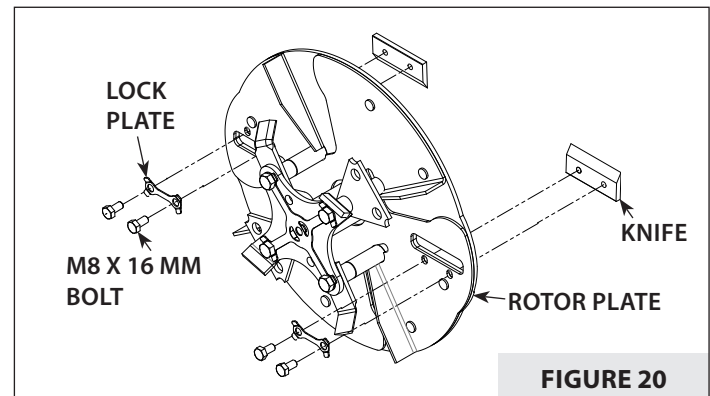

FIGURE 20
2. Remove the two bolts and the chipping knife. **SEE FIGURE 20.**